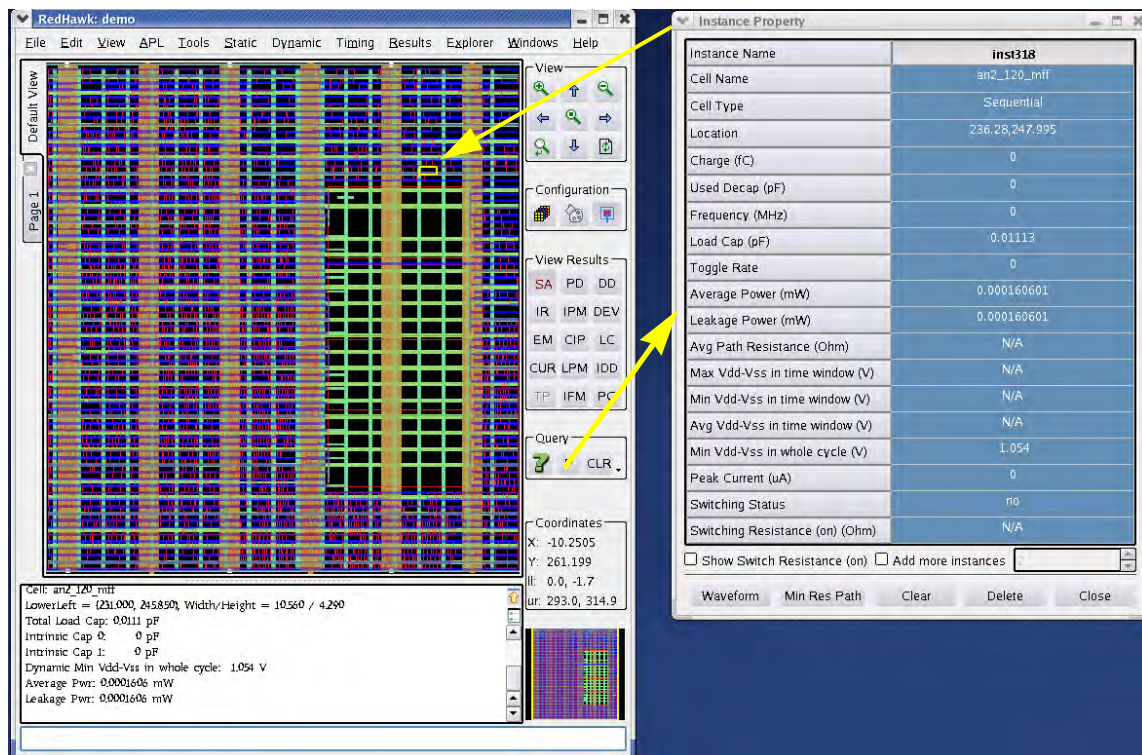

Figure D-8 Instance property display
- **P** - displays an 'Object Property' dialog, listing the properties of the selected instance (in yellow), as shown in Figure D-8. The contents are described following.